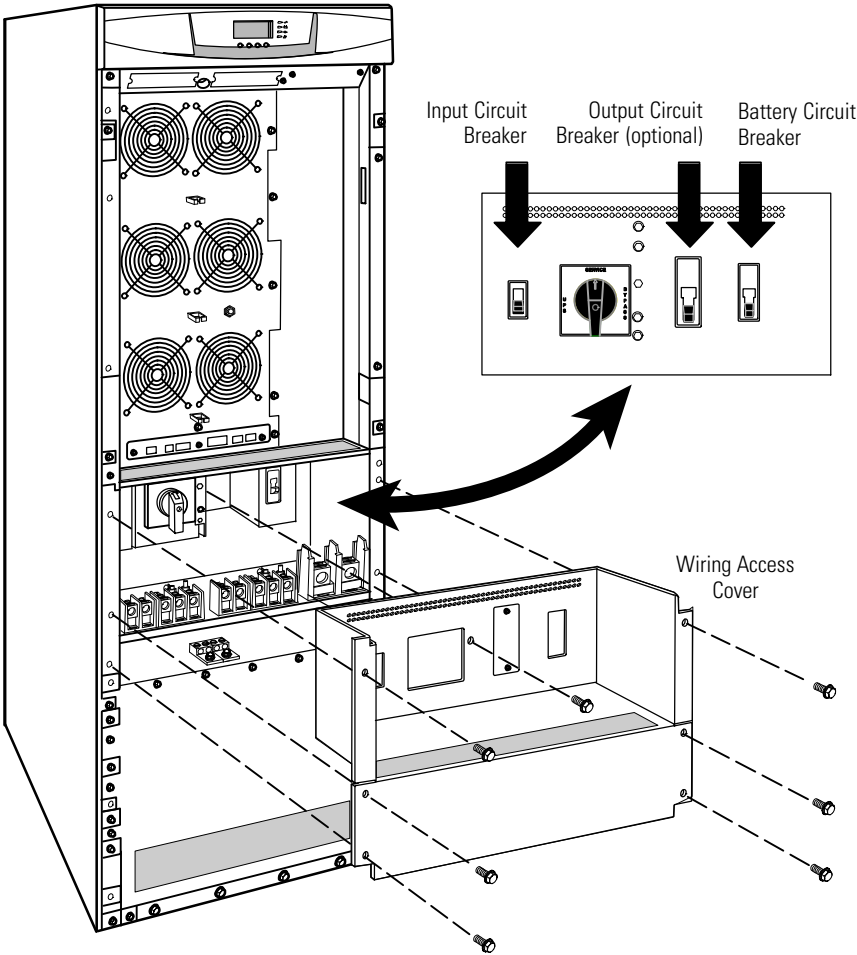

Figure 12. UPS Front View
6. Verify that the UPS input circuit breaker is in the OFF position (see Figure 12).